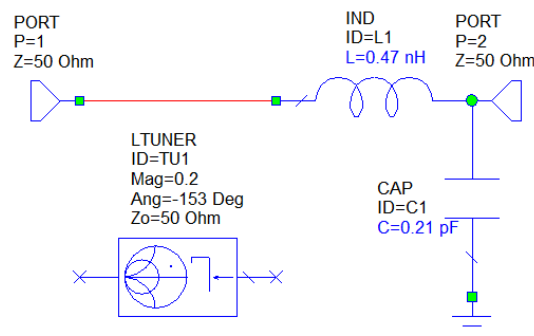

Fig. 11 Output matching circuit.
- The first element is a serial inductor (red curve) and the second is a parallel capacitor (blue curve). After the matching circuit is done move the LTUNER to the side of the circuit. The resulting structure can be seen in Fig. 11.